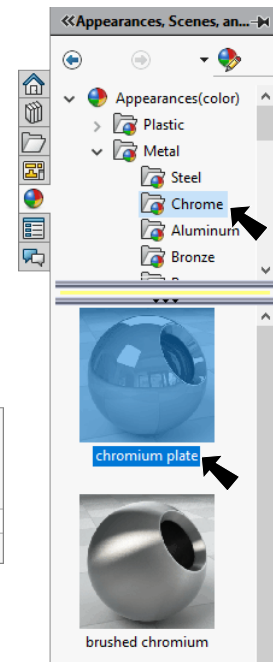

Fig. 6
Step 2. In the Appearances Task pane, expand **Metal**, click **Chrome** and in the lower pane select **chromium plate**, Fig. 6.